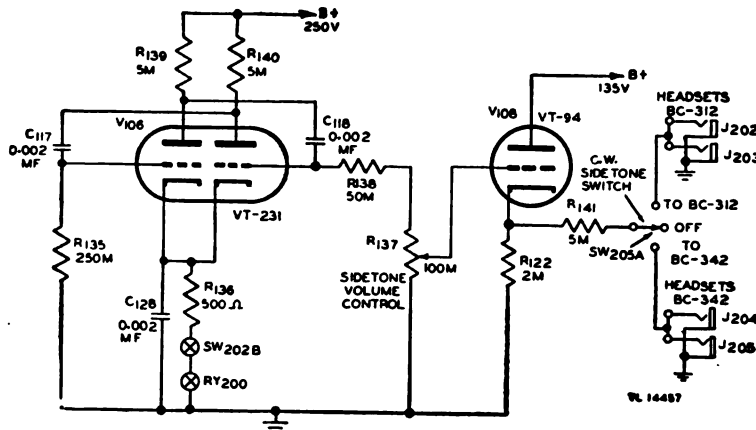

Figure 83. Sidetone oscillator circuit—functional diagram.
a. SIDETONE OSCILLATOR (fig. 83). Tube V_{106} (Tube JAN-6SN7 (VT-231)) is connected in a multivibrator circuit. Its purpose is to generate a sidetone signal for monitoring the c-w transmission. When the transmitter is keyed, the cathode circuit
b. SIDETONE AMPLIFIER (fig. 83). Tube V_{108} (Tube JAN-6J5 (VT-94)) is connected as a cathode-follower amplifier. Its purpose is to isolate the headphones from the sidetone oscillator and to provide a low-impedance output to which the headphones are connected. This stage, strictly speaking, is not an amplifier because theoretically the gain of the stage can never exceed unity and practically the gain of a cathode-follower stage is in the range of 0.6 to 0.8. In this type of amplifier, the plate of the tube is connected directly to $B+$; and the cathode-bias resistor serves as the load resistor.